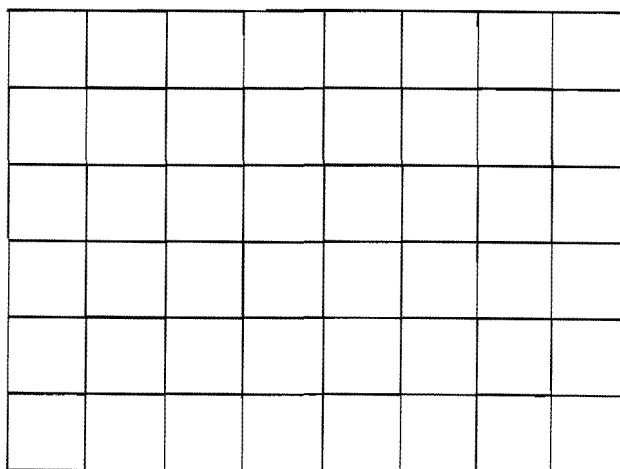

Figure 5-12
4. Sketch the waveform on the graph of Figure 5-12. Adjust the inductor for a stable pattern.